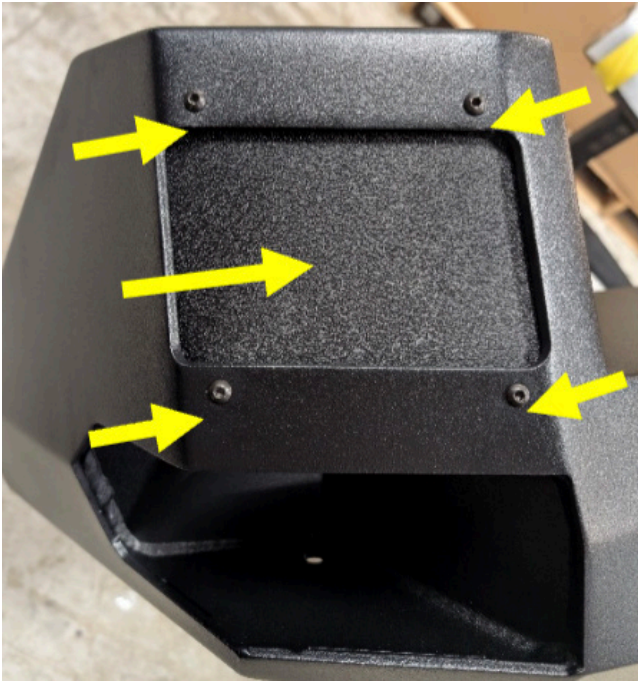

Figure 13
13. Hold black plastic sheet to the inside of the bumper making sure to cover the BSM hole completely. Mark and drill holes using a $\frac{1}{4}$ " drill bit using the bumper holes as reference. Install the sheet into the bumper using the provided 10-24 black button head screws and clip nuts [50494-HW]. Figure 13.